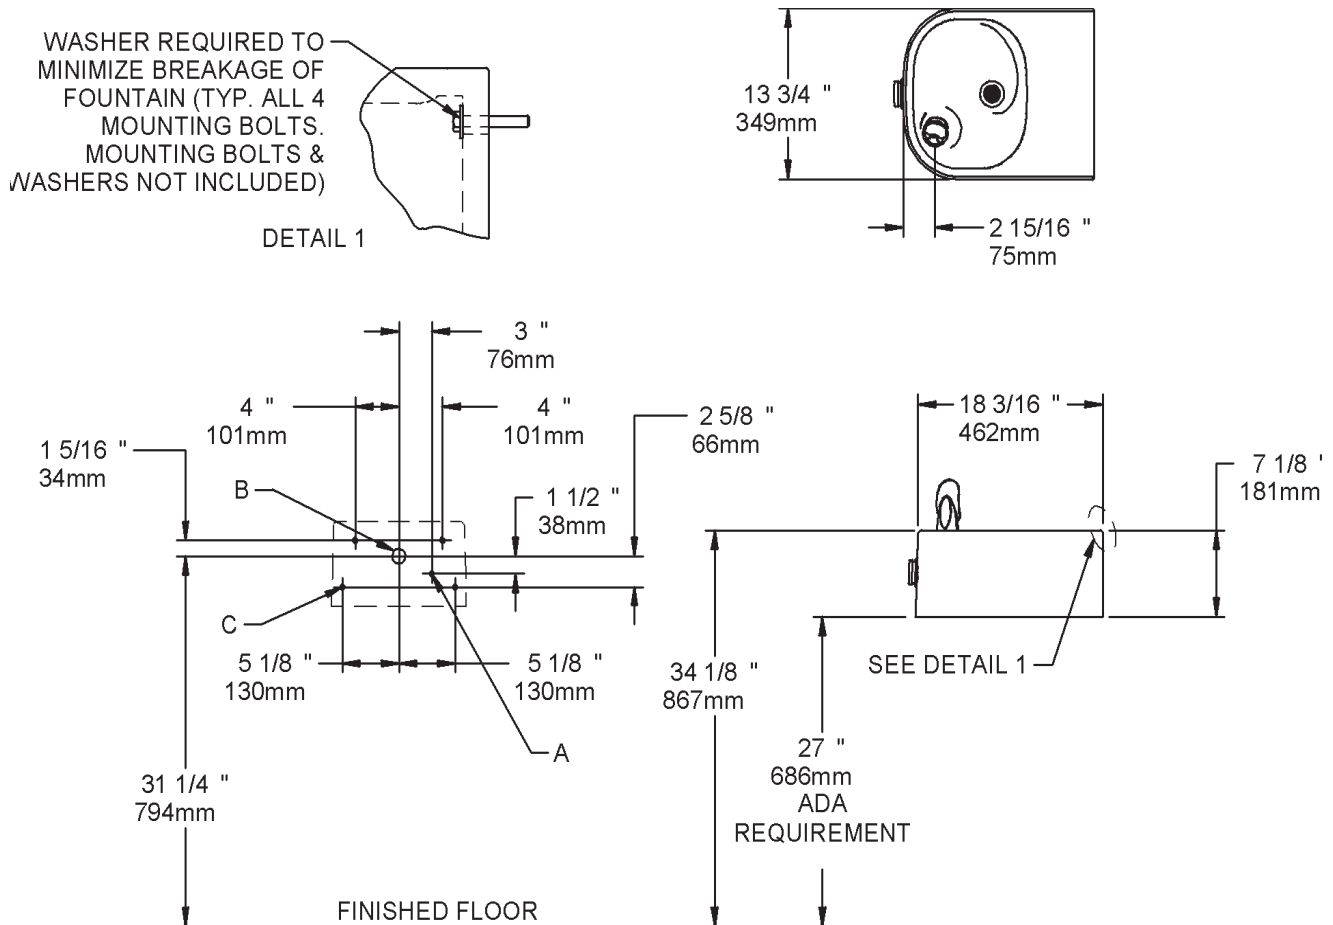

FIG. 3
1. **Wall should already be framed for the fountain** using the positioning dimensions shown in Figures 3 and 4. Shown dimension pertain to installation location (framing must support up to 150 lbs. weight).
2. **Install rough-in plumbing** as shown in Figures 3 and 4. Run supply water inlet line and connect to a service stop (not provided). Turn on supply water and flush thoroughly. Close water supply.
3. **Remove bottom access panel** from fountain basin and save the screws. Install the fountain to the wall using (4) 5/16" bolts and washers (not provided). Bolts should be long enough to securely fasten the fountain to the wall. Tighten securely, but do not over tighten. Over tightening will crack the Composite Fountain.
4. **Remove elbow from end of p-trap** (item 1) and attach it to drain tube. Re-attach elbow to p-trap and cut waste tube to required length using plumbing hardware and trap as guide.